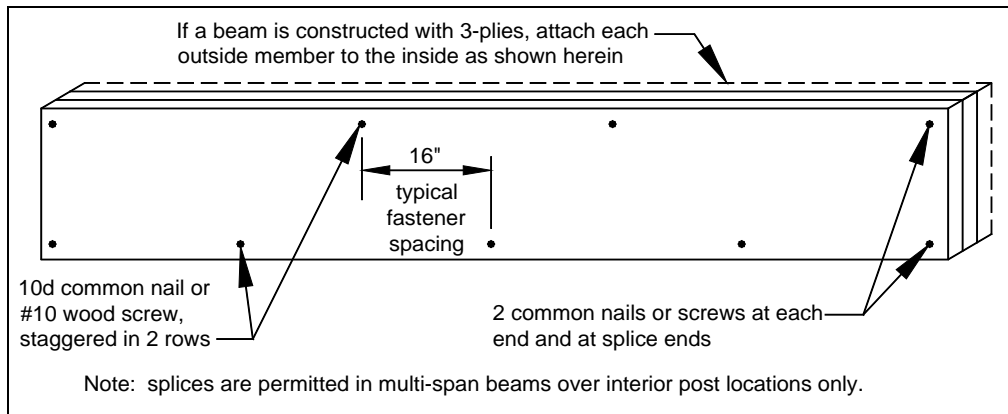

FIGURE 6: BEAM ASSEMBLY DETAIL
- Using the members identified in TABLE 2, beams shall be assembled in accordance with FIGURE 6.